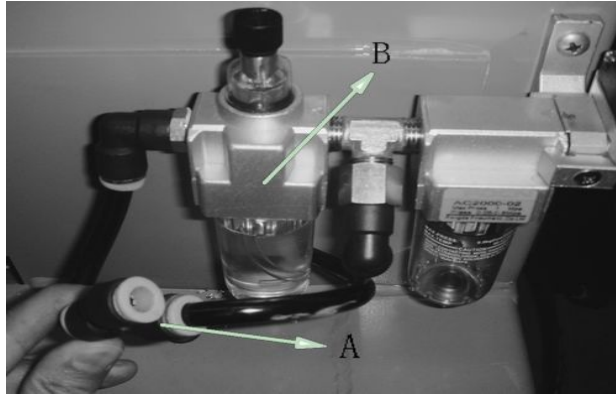

Fig 7-5
7. 1.6Connect the air source hose and use Y Tee (Fig7-5 A) to connect the outlet hose and the other end connect with the inlet of the assistant pressure adjusting valve.
7.3.4Remove the hose from the end of the air source fitting and use a small section of the ø8PU hose to connect the Y Tee with the outlet and another connected with the air source hose (fig7-5)
7.3.5 Insert one end of the $\varnothing 8$ PU hose (fig 7-5) into the idle adapter of the Y Tee and another end connected with the inlet of the pressure adjust valve of the assistant.